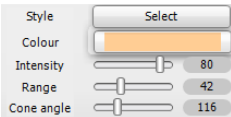

Fig. 416 – halogens edition pane
- to adjust the light parameters to your needs, use sliders and buttons in the section directly under the list of lights (Fig. 416);